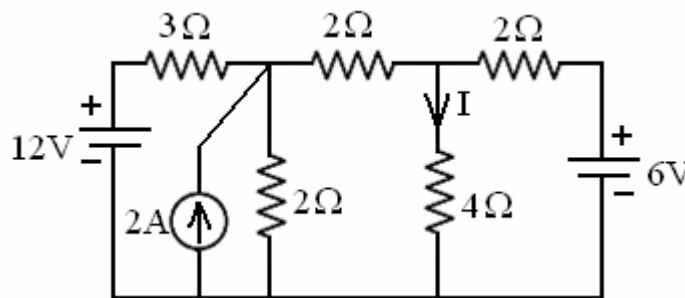

Figure 2
- b) Find current 'I' in the below circuit (shown in Figure 2).